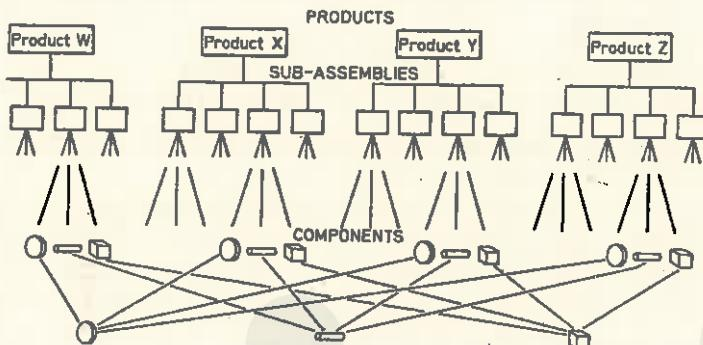

Fig. 6.11. Manufacturing Groups.
- The relationship between the products and the parts is shown in Fig. 6.11.